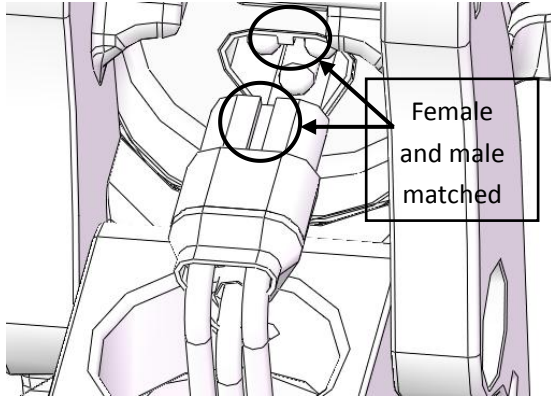

Figure 8
- 2) Match the arm's MT60 female connector with copter's MT60 male connector, see figure 8.